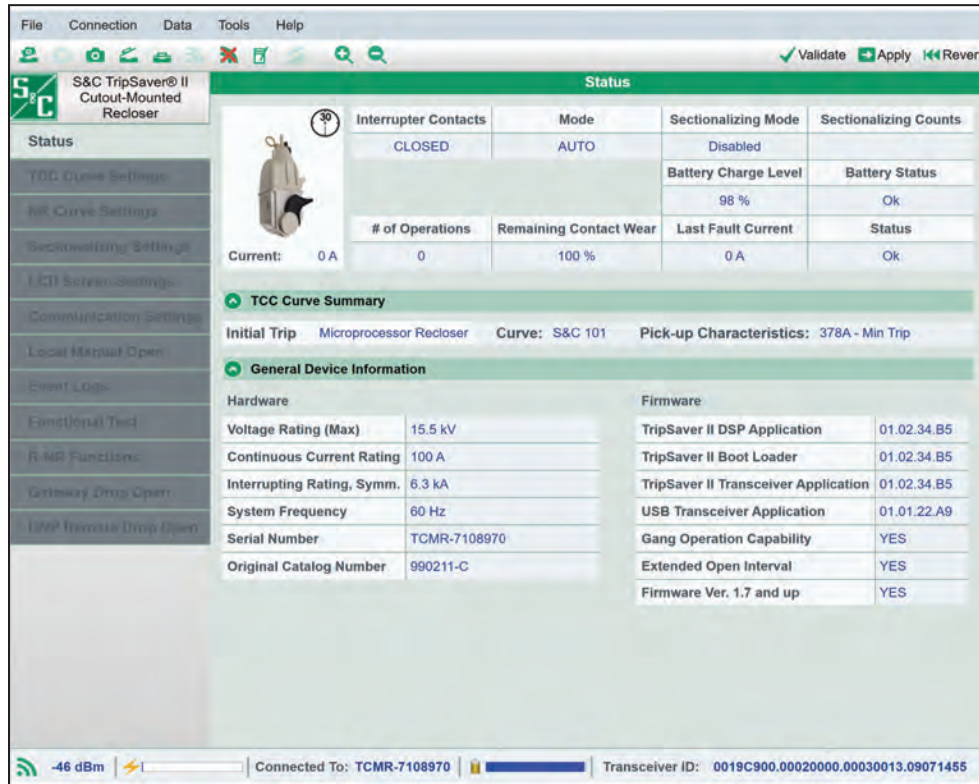

Figure 171. The *Status* screen after a successful profile restoration.
**STEP 6.** Check the *Status* screen to make sure the profile information has been successfully restored. See Figure 171.